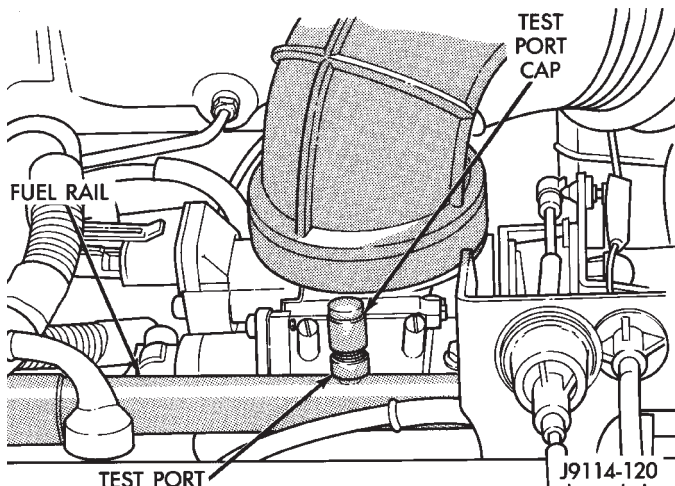

Fig. 11 Fuel Pressure Test Port—Typical
(1) Remove protective cap at fuel rail test port (Fig. 11). With the engine off, connect an accurate 0-689 kPa (0-100 psi) fuel gauge to the pressure test port fitting on the fuel rail. The fitting on the pressure tester must be in good condition and free of any leaks before performing this test.